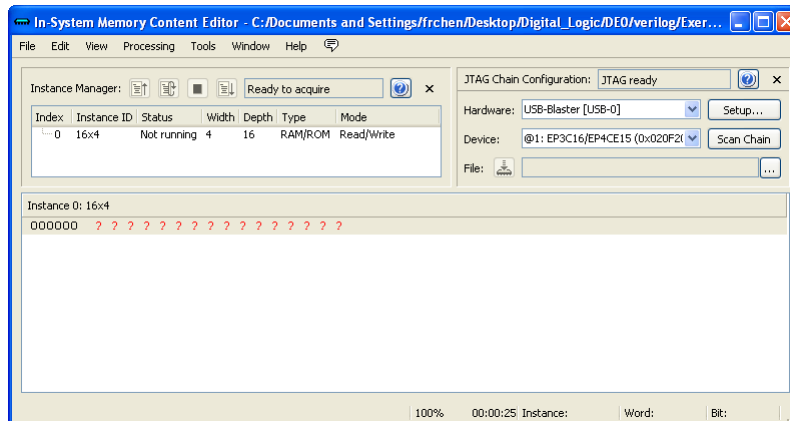
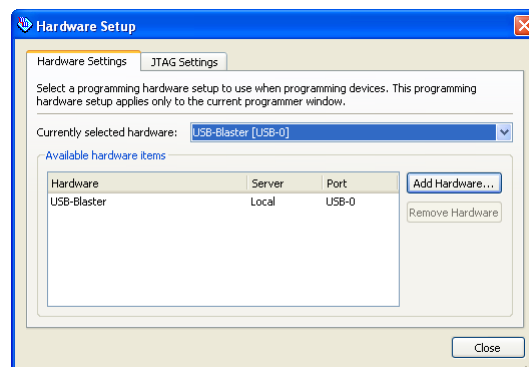

Figure 7: The In-System Memory Content Editor window.
Figure 8: The Hardware Setup window.
5. Select Tools > In-System Memory Content Editor, which opens the window in Figure 7. To specify the connection to your DE0 board click on the **Setup** button on the right side of the screen. In the window in Figure 8 select the USB-Blaster hardware, and then close the Hardware Setup dialog.